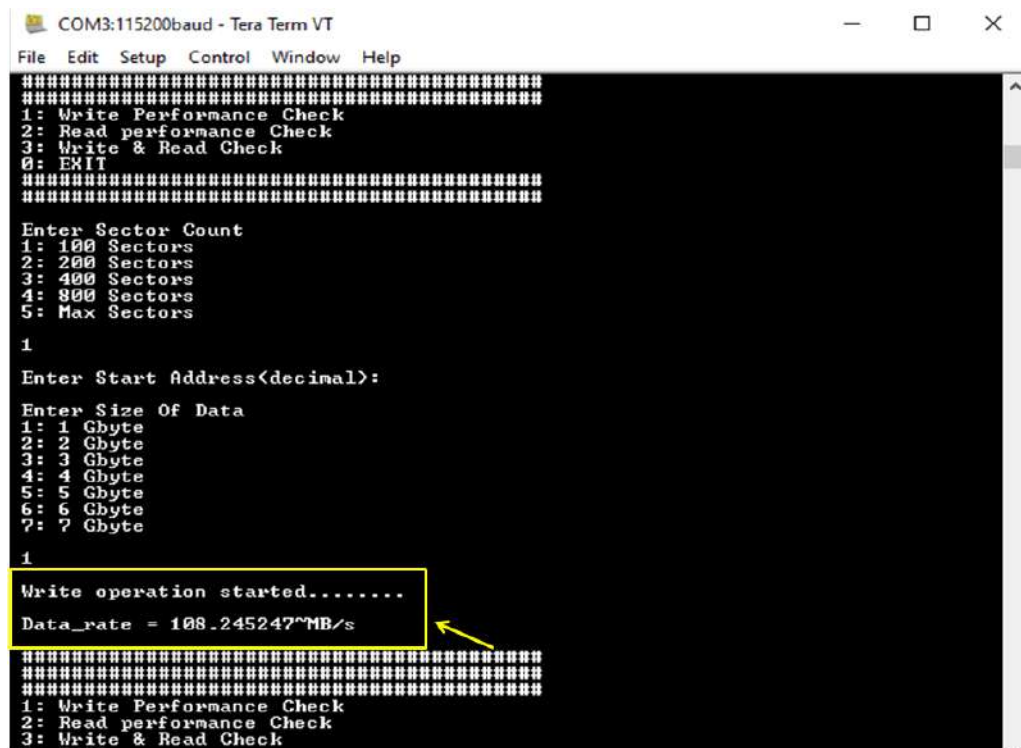

Figure 14: Test step 3
- For write performance, click **1** and press **Enter**. Then give it to the sector count and click “Enter”, afterwards given to the address and size of the data then the operation will be started. And the data will be shown in figure 14.